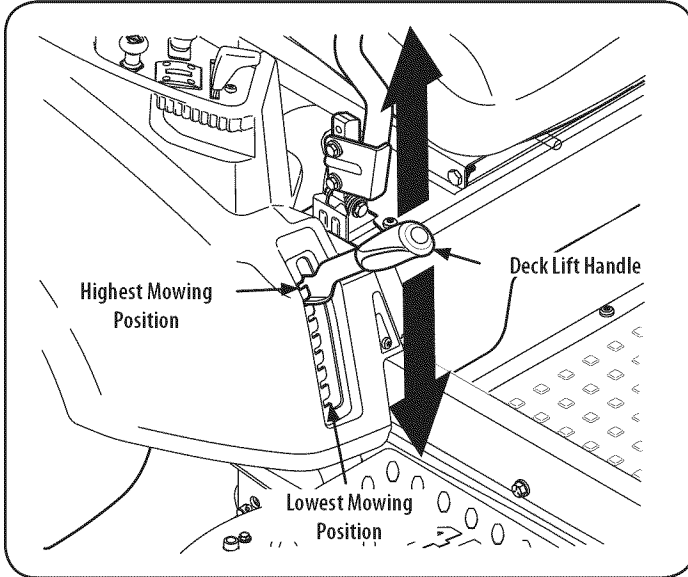

Figure 31
- a. Using the deck lift handle, raise the deck to the position that provides the most horizontal run of the belt between the deck idler pulleys and the PTO pulley on the bottom of the engine. See Figure 31.
6. Lower the deck into the lowest position using the deck lift handle. See Figure 31.
1. Place the deck lift handle in the highest mowing position See Figure 31.